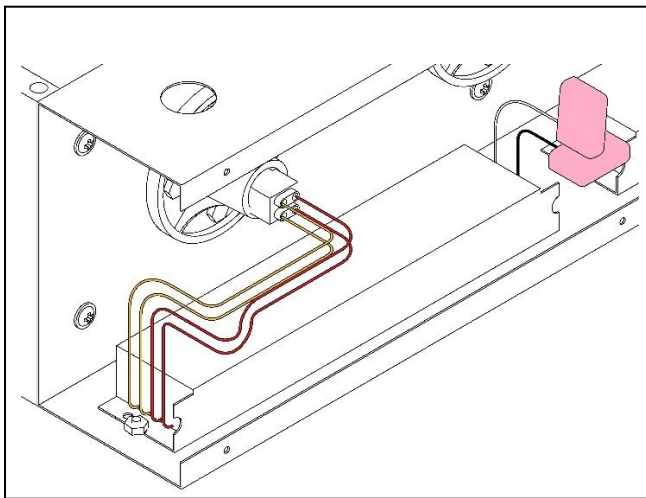

Figure 12
6.) Disconnect lamp plug and power attached to defective ballast. Take note of which terminals power the defective ballast so the new one can be wired correctly. See Figures 12 and 13.
7.) Use an 11/32" socket wrench to remove the (2) nuts holding the ballast into place. See Figures 12 and 13.
9.) Reinstall the (2) nuts that hold the ballast in place using an 11/32" socket wrench. See Figures 12 and 13.
10.) Reconnect lamp plugs and wires powering ballast. See Figures 12 and 13.